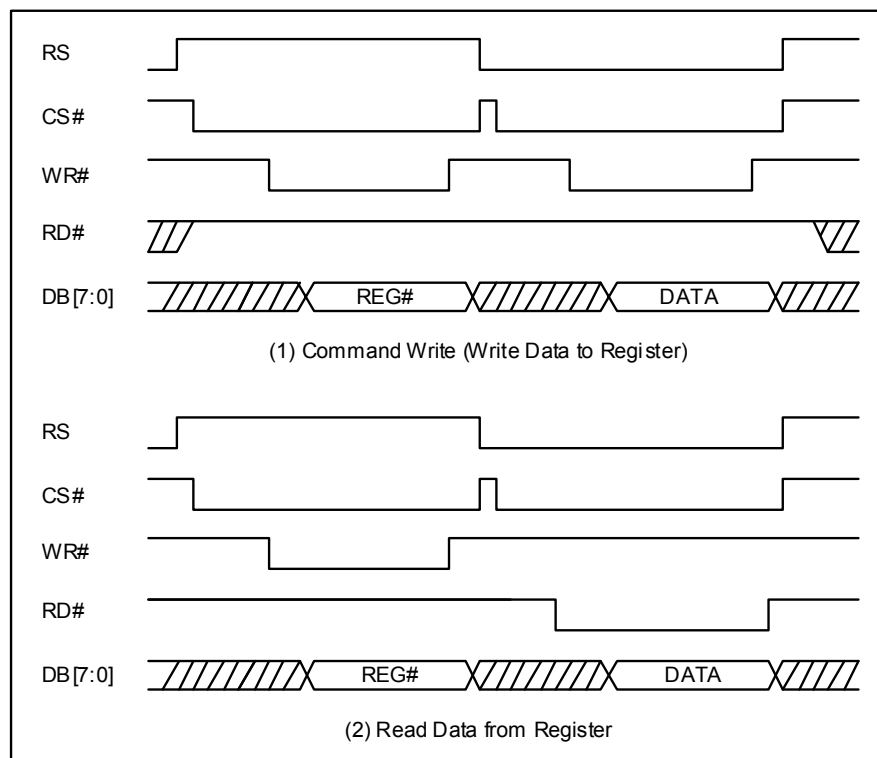

Figure 6-27 : Register Write/Register Read
RA8875 contains dozens of registers. If users want to write a command into the register of RA8875, they must execute the command write cycle first, i.e. the address of register, and then execute the data write cycle for storing a new data into the target register. So "Write Command" means that it will write a new data into the register. Please refer to the Figure 6-27 (1) for the related access timing.
To read the register contents of RA8875, it has to execute the command write cycle first, and then a "Data Read cycle" follows it. Please refer to the Figure 6-27 (2). But please note that the Figure 6-27 is based on 8080 interface.